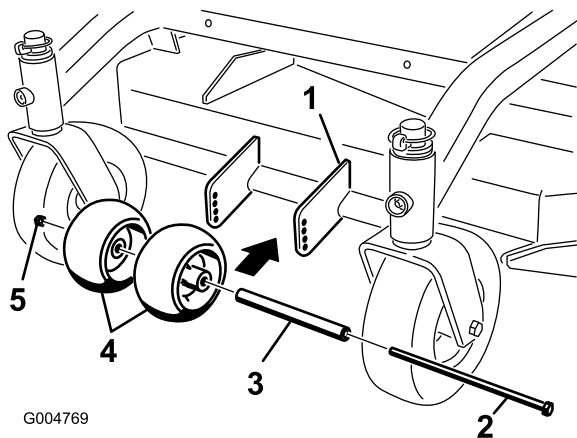

Figure 18
1. After adjusting height-of-cut, check the anti-scalp rollers so that there is a minimum of 10 mm (3/8 inch) clearance above the ground (Figure 16, Figure 17, Figure 18).
2. If adjustment is needed, remove the bolt, washers, and nut (Figure 16, Figure 17, Figure 18).
3. Select a hole position, so the anti-scalp rollers are a minimum of 10 mm (3/8 inch) off the ground (Figure 16, Figure 17, Figure 18).
4. Install the bolt and nut (Figure 16, Figure 17, Figure 18).